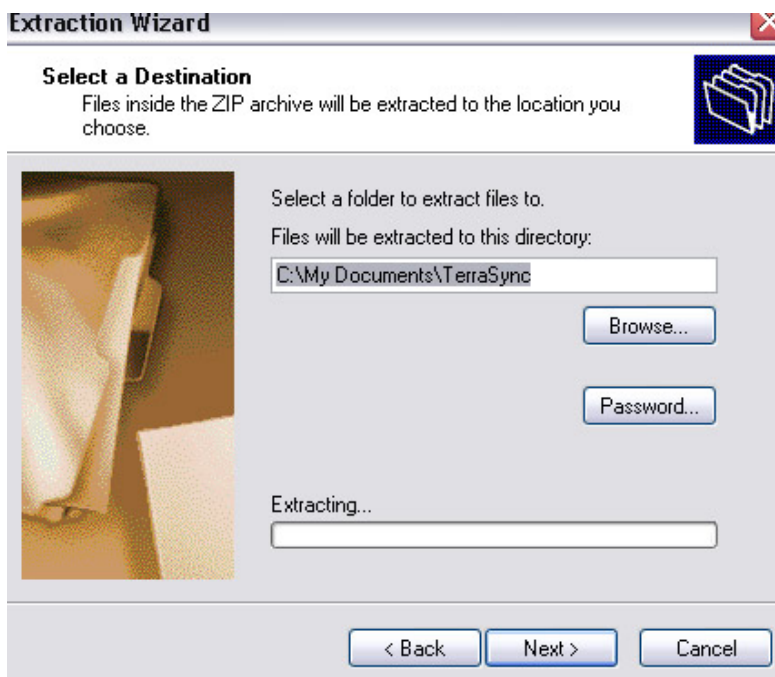

Figure 5. Extract (or copy) Original Target Files into the Terrasync Directory
4. You can now safely replace the files you just copied with the ones from the original zip file. Right-click the zip archive, and click Extract All. When prompted to Select a folder to extract files to, browse to C:\My Documents\TerraSync. (Figure 5). If prompted about replacing existing files, select Yes to All. Note: It is crucial to make copies of the files first (see Step 3 above)—otherwise, you may lose the data.